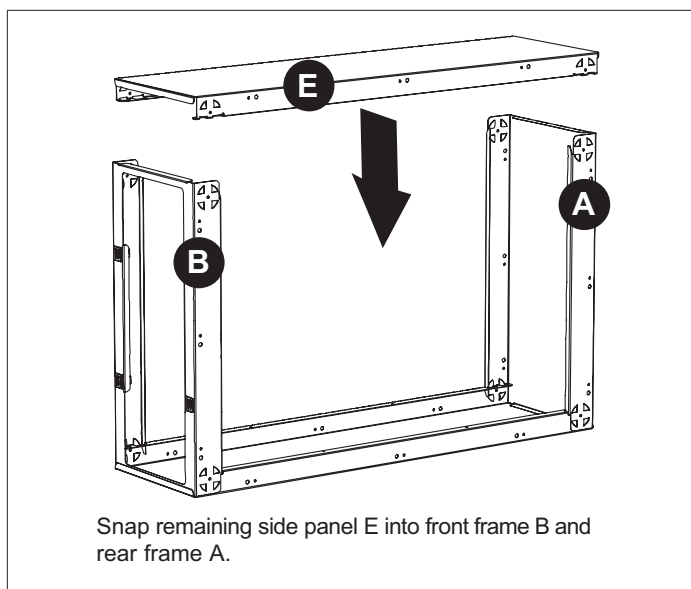

Figure 5. Assemble Remaining Side Panel (E)
4. Align and insert remaining side panel E into front frame B and rear frame A. Firmly press down until each corner has snapped into place (see Figure 5 on page 3).